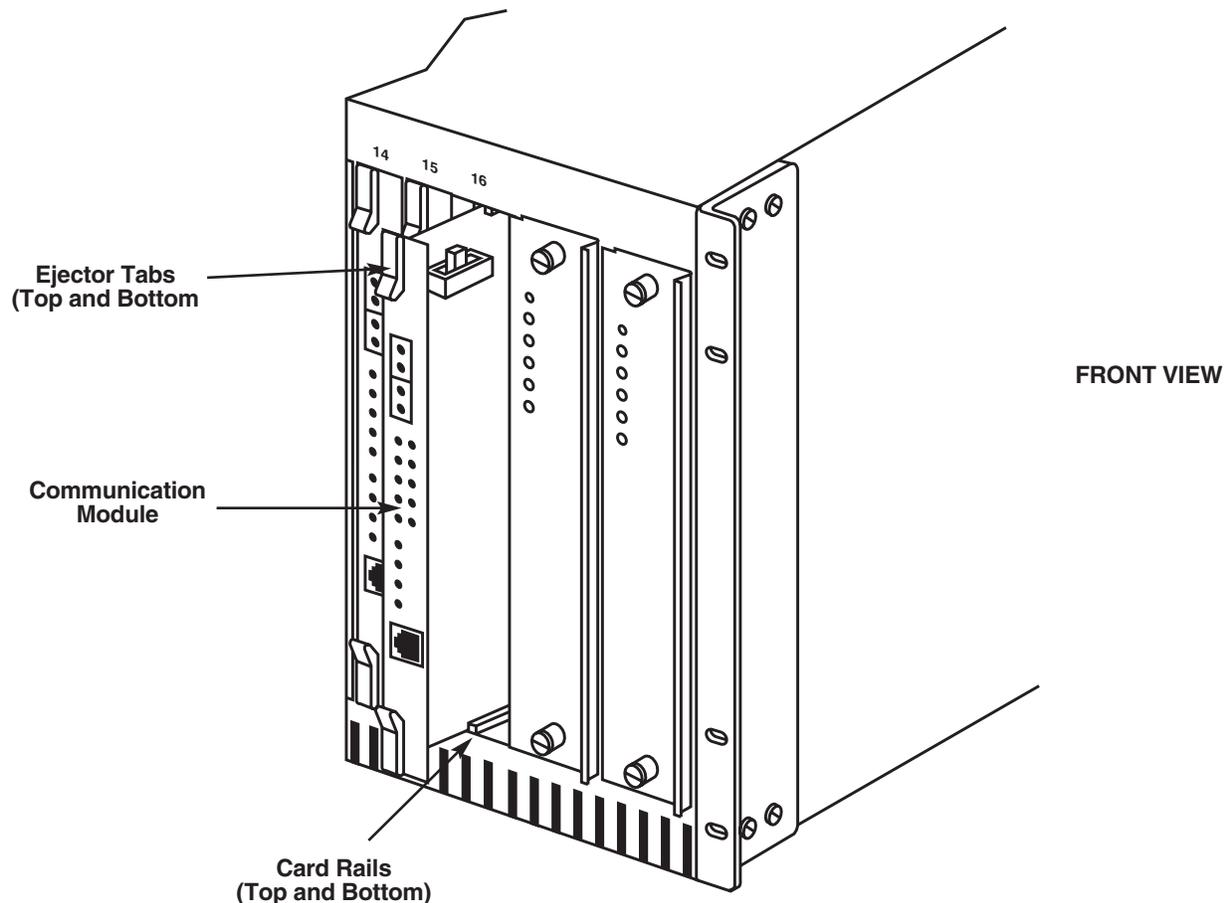

Figure 3-4. Reseating a Communication Module.
1. Release the top and bottom ejector tabs securing the Communication Module to the chassis. See Figure 3-4.
4. Lock the top and bottom ejector tabs. These tabs secure the Communication Module to the chassis. See Figure 3-4.